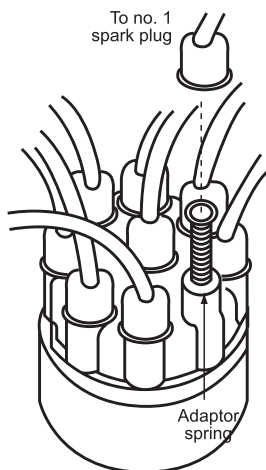

FIGURE 5.
**NOTE:** In some cases the ignition spark may jump to the engine block or baffle. This may occur on those engines such as late model Ford 8-cylinders where the timing light adaptor spring is too close to engine metal parts. In such cases, trace the wire from the spark plug to the distributor cap. Disconnect the wire at the cap and install the adaptor spring as shown in figure 5.